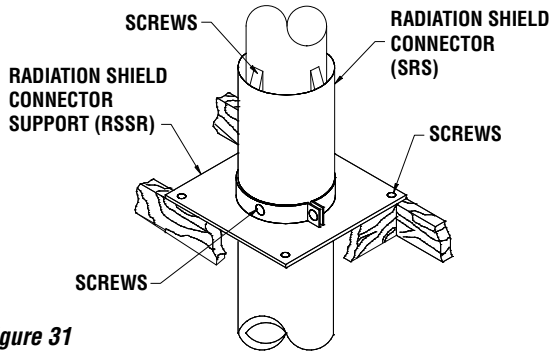

Figure 31
- Slide a flexible shield (FS) on top of that length all the way to the bottom.
- At the ceiling level from the top, install a Radiation Shield Connector (SRS) and a Radiation Shield Support (RSSR). (see *Figure 31*).